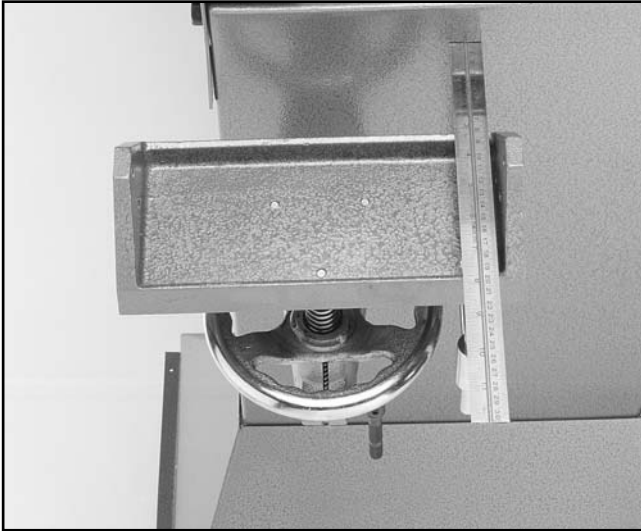

Figure 8. Checking table bracket for parallelism.
6. Measure the table bracket to the stand to assure it is parallel to the stand. **See Figure 8.** If the bracket is not parallel, remove the vertical brace, thread the horizontal brace in or out an appropriate amount and reinstall the vertical brace.